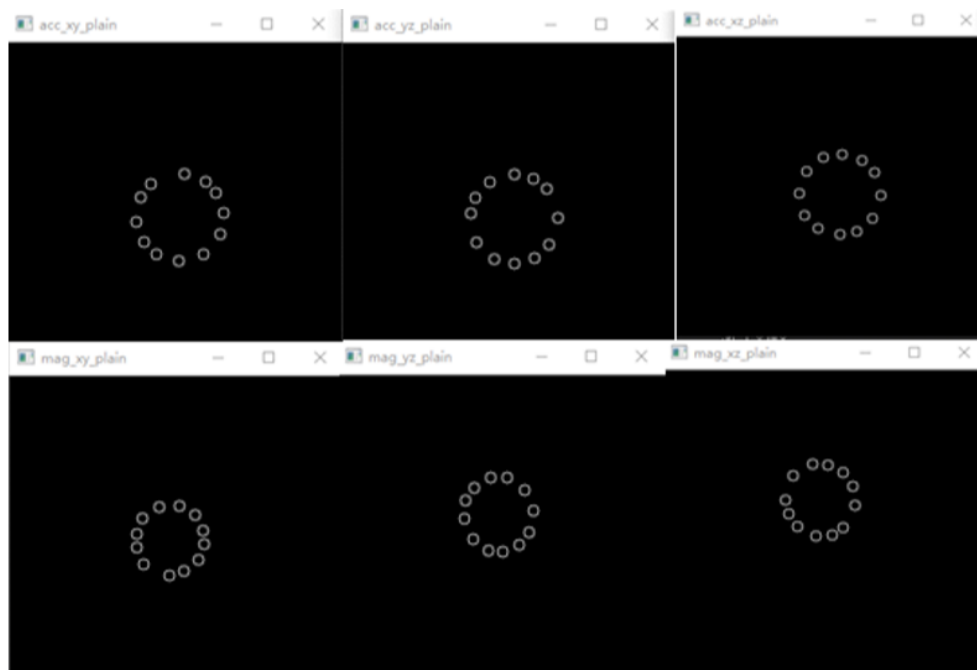

Fig 2-7
*Fig 2-7 is an example of a group of high-quality data.*